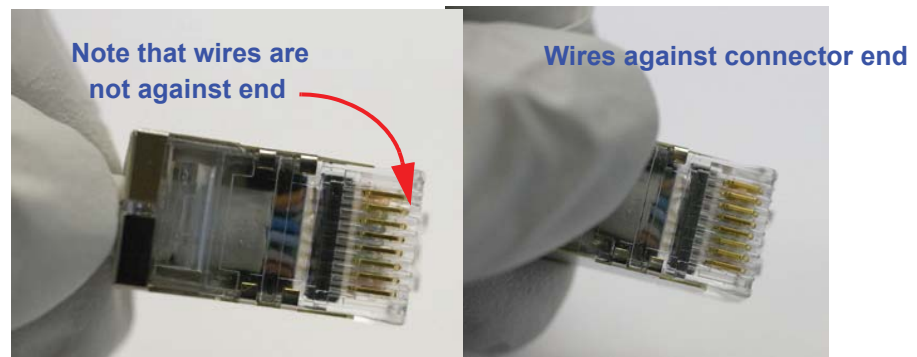

Figure 3-7 Close-up of RJ45 Wire Detail
12. Check the cable wire ends in the RJ45 to make sure they have been crimped properly. Removing the connector at this point is a lot easier than after everything is installed and communication with the instrument is failing due to a poor crimp. Review Figure 3-7 for an illustration of how tightly the wire ends should be against the ends of each channel.